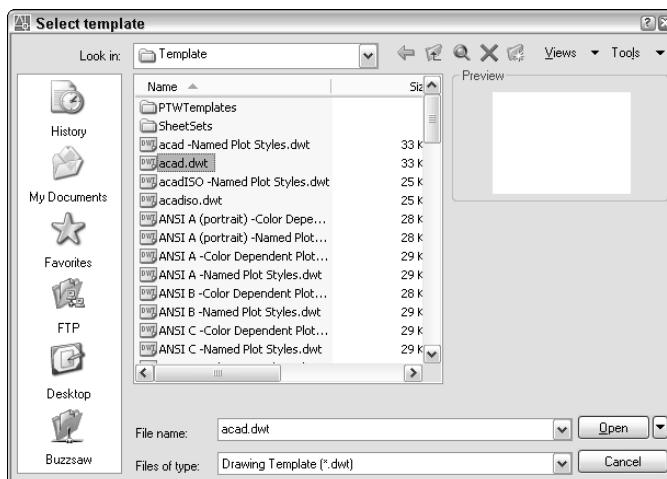

Figure 3-2:
4. Select the acad.dwt template, as shown in Figure 3-2, and click the Open button (for AutoCAD LT, select ac1t.dwt).